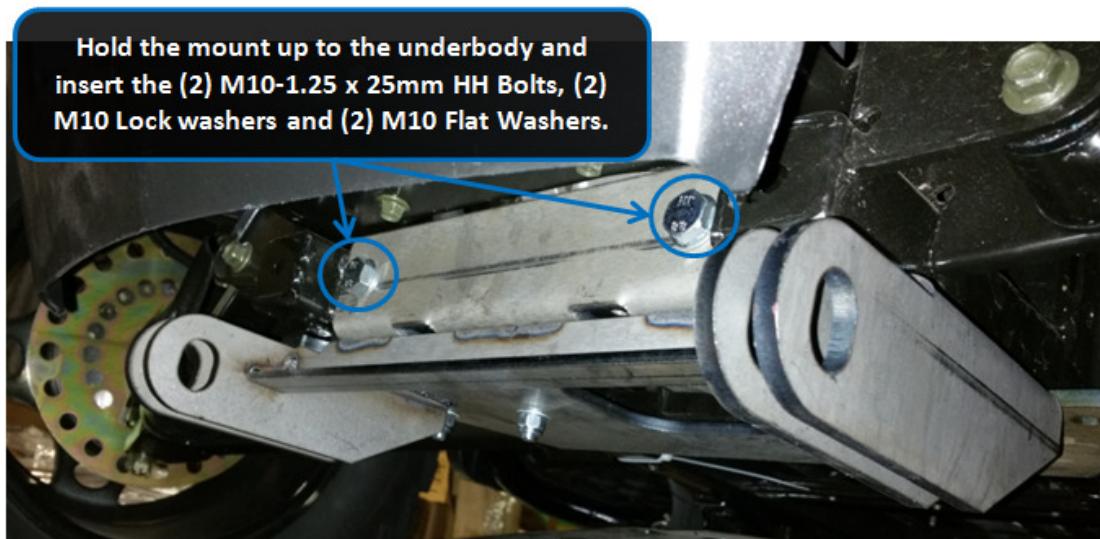

Figure 5
2) Hold the mount plate to the front end of the machine and attach it using the (2) M10-1.25mm x 25mm Hex Bolts, (2) M10 Lock Washers and (2) M10 Flat Washers. Do not tighten these bolts at this time. See Figure 5. **NOTE: If you have a 2012-2013 machine, the two front bolts must be drilled and tapped. Mount the rear straps and hold the front end to the frame of the Coleman. Mark the two hole locations and drill/tap for M10-1.25 or equivalent size bolts.**